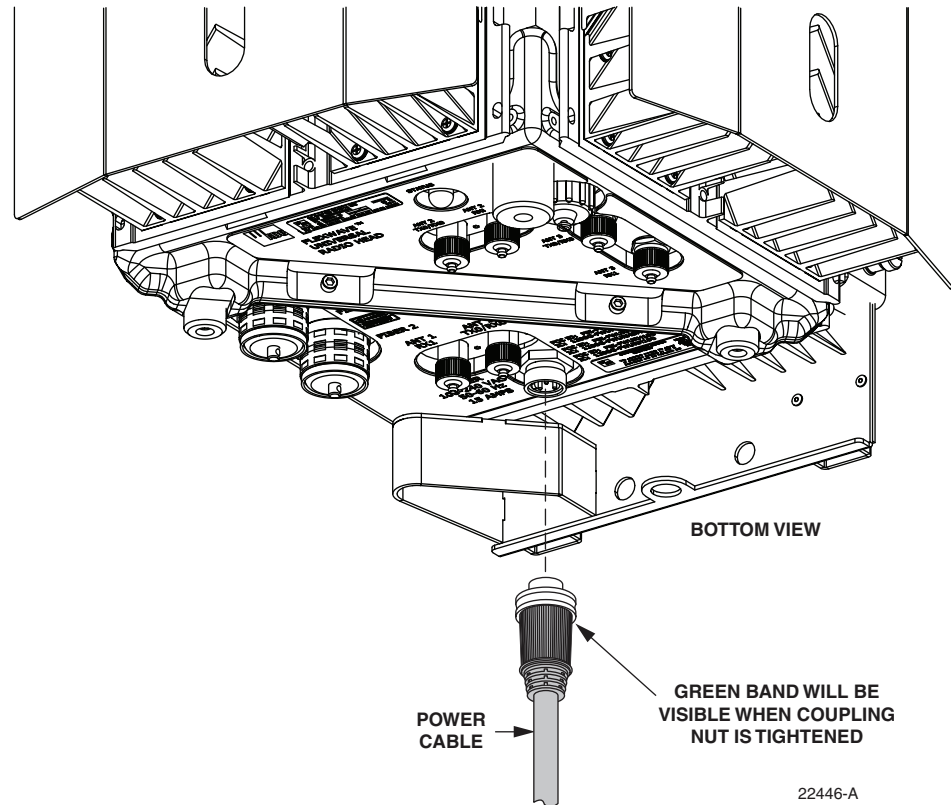

Figure 12. Connecting AC Power Cable to Remote Unit
10. Remove the dust cap from the AC power port located on the bottom of the remote unit as shown in Figure 12.